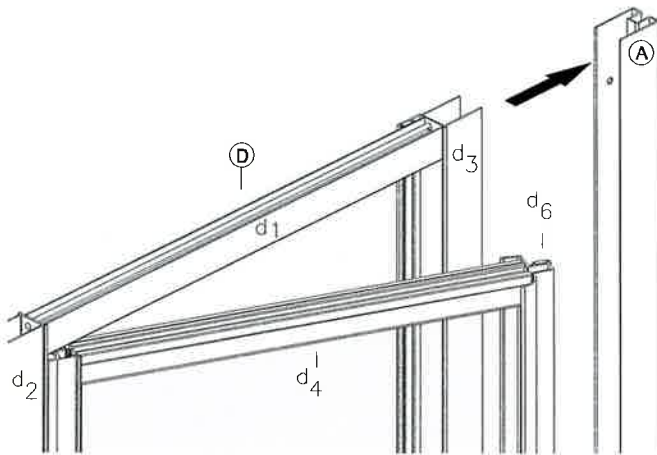

figure 2
Lift the Door Frame Assembly (D) onto the base curb and insert it into Wall Jamb (A) as shown in figure 2.
Figure 2 shows Door Strike (d6) on wall side and Hinge Post (d2) on End Panel side, if you want your door to strike on the End Panel side, cartwheel the Door Assembly 180 degrees.